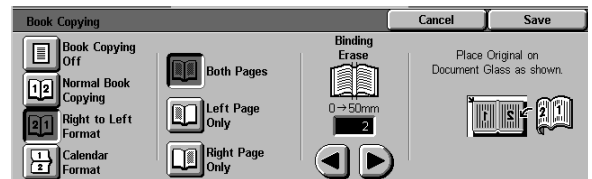

Figure 12: Book Copying screen with Right to Left Format icon selected
- 2 Touch the **Right to Left Format** icon, as in Figure 12.